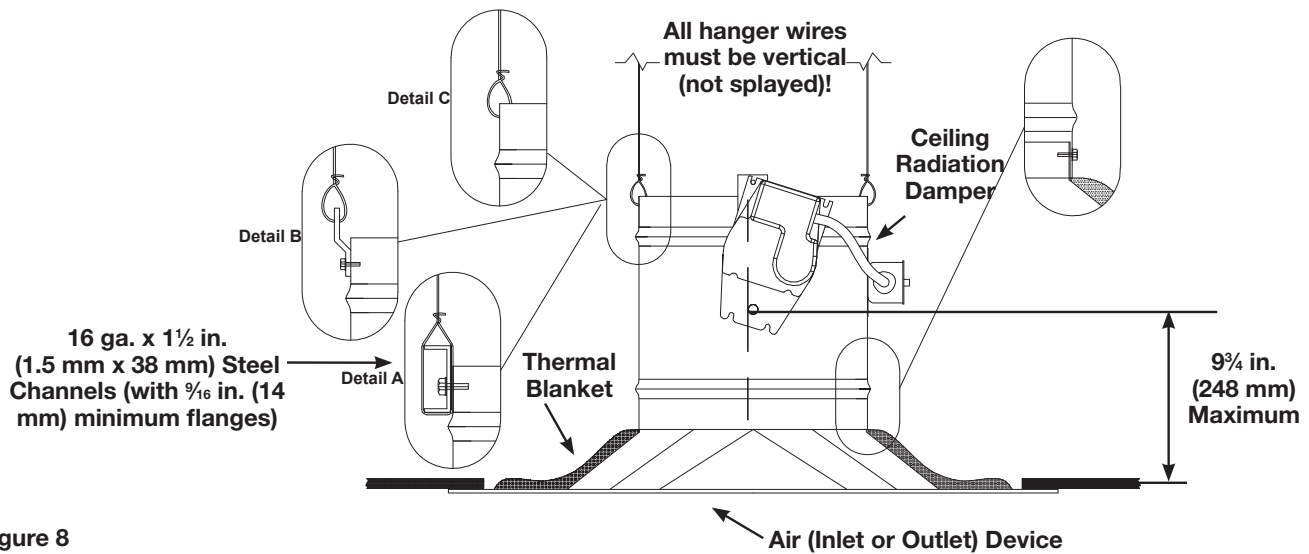

Figure 8
1. Ceiling radiation damper may be connected directly to the air device neck and supported by steel channel (see **Figure 8, Detail A**).
2. Ceiling radiation damper may be connected directly to the air device neck and supported by hanger straps (see **Figure 8, Detail B**).
3. Ceiling radiation damper may be connected directly to the air device neck and supported by direct suspension with wires looped through holes in the damper frame before typing (see **Figure 8, Detail C**).
Models CRD-501 may be installed as shown in **Figure 8**.